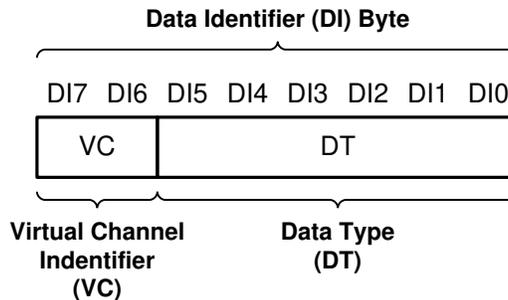

图 7-9. CSI-2 Data Identifier Structure
The TDES960 MIPI CSI-2 protocol interface transmits the data identifier byte containing the values for the virtual channel ID (VC) and data type (DT) for the application specific payload data, as shown in 图 7-9. The virtual channel ID is contained in the 2 MSBs of the data identifier byte and identify the data as directed to one of four virtual channels. The value of the data type is contained in the 6 LSBs of the data identifier byte. When partnered with the TSER953 serializer, the Data Type is passed through from the received CSI-2 packets. When partnered with a DVP Mode serializer, the received RAW mode data is converted to CSI-2 Tx packets with assigned data type and virtual channel ID.